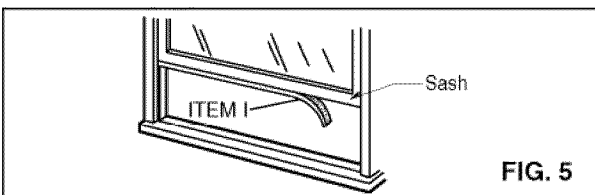

FIG. 5
- 3** Cut the FOAM SEAL (ITEM I) to fit the underside of the window sash. Peel off the backing and attach the FOAM SEAL as shown in Fig. 5.